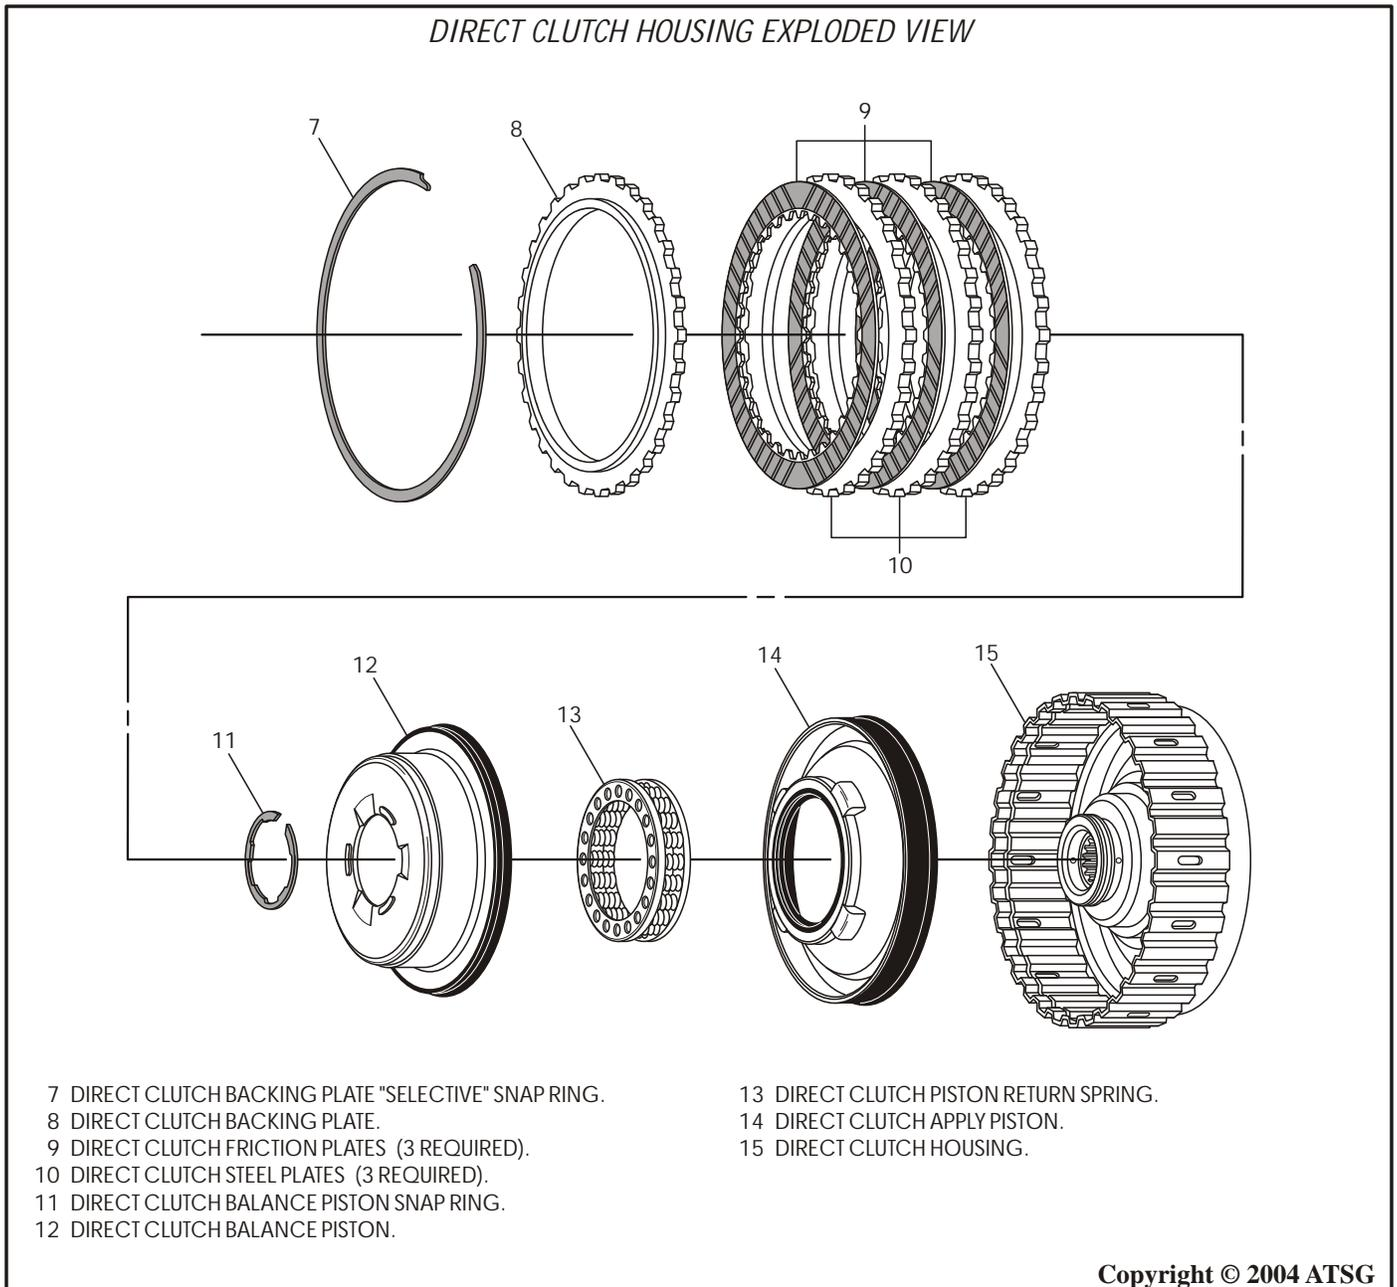

Figure 76
1. Disassemble the direct clutch housing using Figure 76 as a guide.